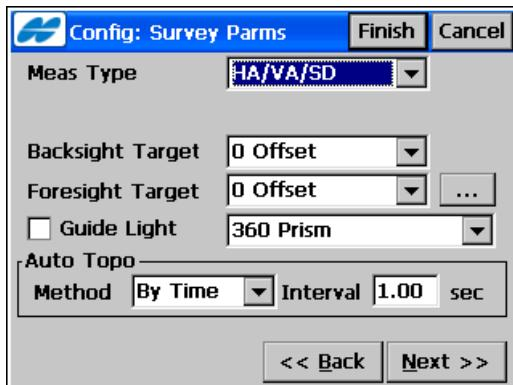

Figure 3-3. Survey Parameters – Second Screen
- **Next** – opens the second (additional) **Survey Parameters** screen (Figure 3-3 on page 3-5).
The second (additional) **Survey Parameters** screen contains the following survey parameters (Figure 3-3 on page 3-5).